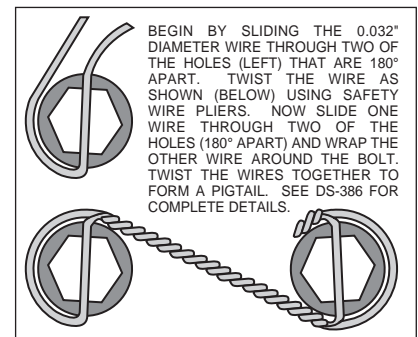

Figure 3. Safety Wire Diagram
•With the larger I.D. side of the rotor (5) facing away from the hat (6), bolt rotor (5) to hat (6) through the backside of the rotor using washers (7) and bolts (8). Torque bolts (8) to **85 in-lb**. Safety wire bolts (8) using standard 0.032 inch diameter stainless steel safety wire as shown in Figure 3. Please refer to Wilwood's data sheet DS-386 (available at [www.wilwood.com/pdf/ds386.pdf](http://www.wilwood.com/pdf/ds386.pdf)) for complete safety wire installation instructions. Slide the rotor/hat assembly onto the hub. Install a couple of lug nuts (finger tighten) to keep the rotor/hat assembly in place while continuing with the installation.